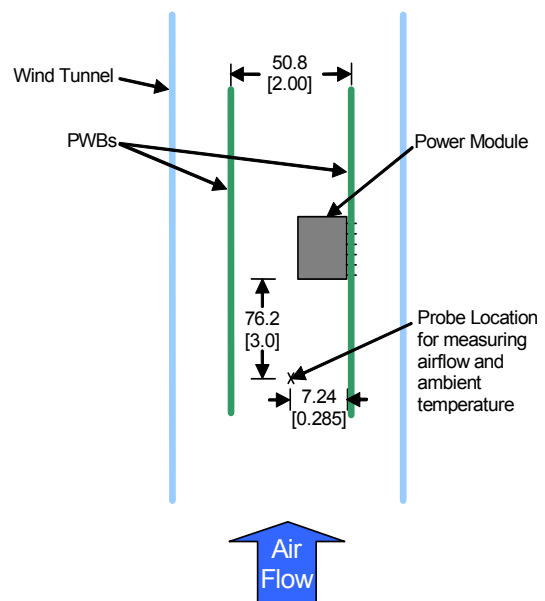
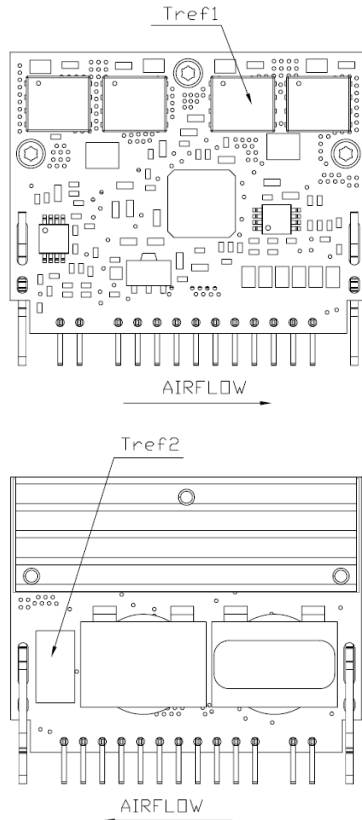

Figure 26. Thermal Test Set-up.
Figure 27. Temperature measurement locations  $T_{ref1}$  and  $T_{ref2}$ .
Considerations include ambient temperature, airflow, module power dissipation, and the need for increased reliability. A reduction in the operating temperature of the module will result in an increase in reliability. The thermal data presented here is based on physical measurements taken in a wind tunnel. The test set-up is shown in Figure 26. The preferred airflow direction for the module is in Figure 27.
The thermal reference points,  $T_{ref1}$  and  $T_{ref2}$  used in the specifications are shown in Figure 27. For reliable operation the temperature at  $T_{ref1}$  should not exceed 120°C, and the temperature at  $T_{ref2}$  should not exceed 105°C. Please refer to the Application Note “Thermal Characterization Process For Open-Frame Board-Mounted Power Modules” for a detailed discussion of thermal aspects including maximum device temperatures.